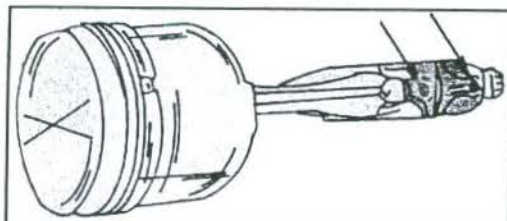

Fig. 1.30 - Connecting rod bearing caps can be marked with the group code letters.
- Mark each piston and the connecting rod before removal with the cylinder number. This can be carried out by writing the cylinder number with paint onto the piston crown. Also mark an arrow, facing towards the front of the engine (the arrow in the piston crown will be covered by the carbon deposits). When removing the connecting rod, note the correct installation of the big end bearing cap. Immediately after removal mark the connecting rod and the big end bearing cap on the same side. This is best done with a centre punch (cylinder No. 1 one punch mark, etc., see Fig. 1.30).
- Piston pins and small end bushes must be checked for wear or seizure. One individual connecting rod can be replaced, provided that a rod of the same weight group is fitted. Connecting rods are marked with either one or two punch marks (arrow, Fig. 1.30) and only a rod with the same mark must be fitted.